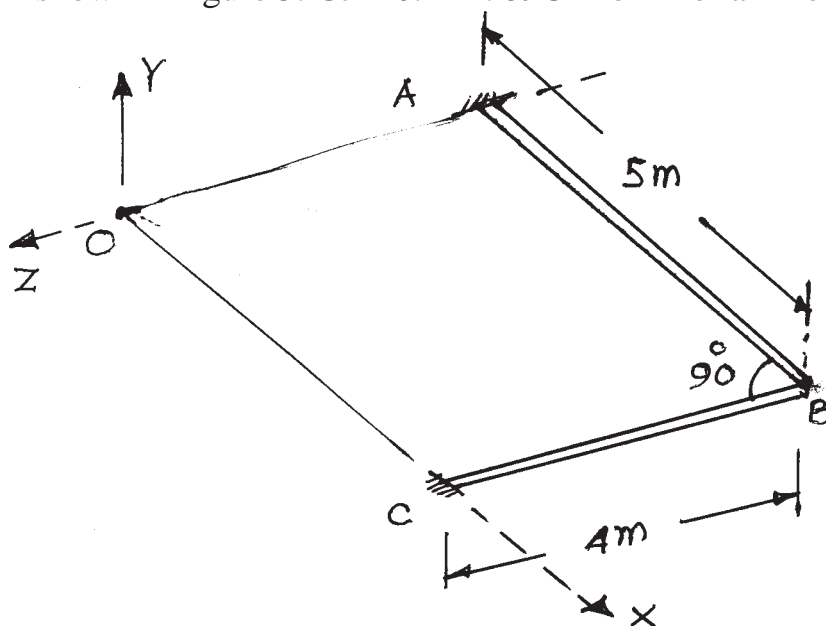

FIGURE 5
- b) Using structure approach, develop only stiffness matrix of grid structure shown in figure 5. $GJ = 0.4 EI$. & Uniform for all members. [10]
Q10) Analyse & draw bending moment diagram for grid structure of Q.9(b) as shown in figure 5 if it carries vertical downward load of 50 kN at B. Use stiffness matrix method. **[18]**
- b) Write a CNC program by using G and M code for Fanuc controller for the contour cutting and through drilling for the component shown in Figure 5. use the concept of subprogram for contour cutting such that depth of cut per pass is 1 mm. Use canned cycle for drilling operation. Raw material is 120 mm × 100 mm × 5 mm. Assume suitable data for cutting parameters like feed, speed coolant etc for machining mild steel.